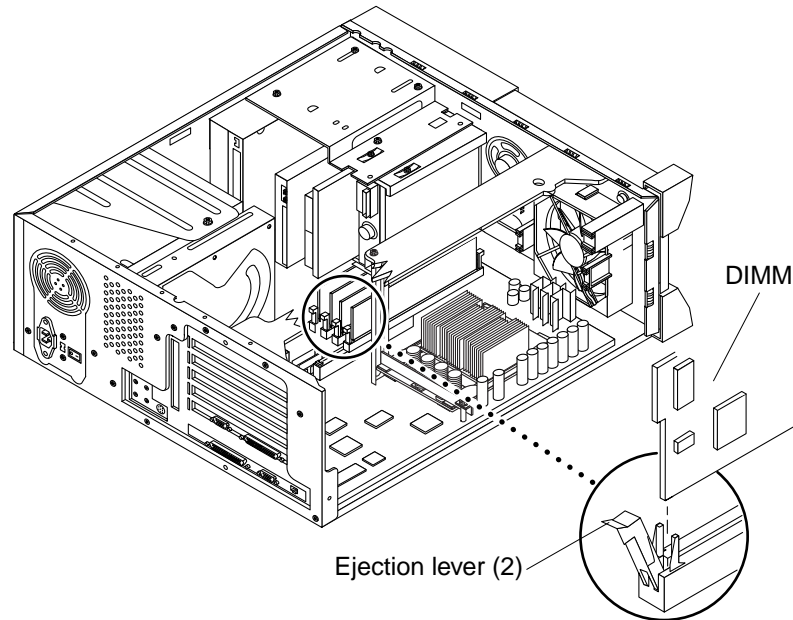

FIGURE 8-3 Removing and Replacing a DIMM
3. Push the ejection levers away from the DIMM (FIGURE 8-3).
2. **Install the DIMM as follows: (FIGURE 8-3)**